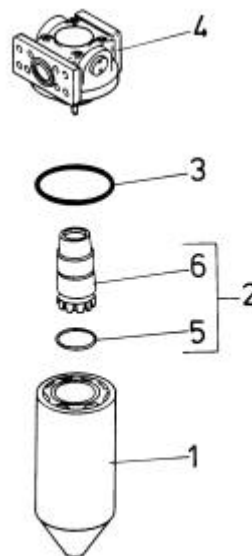

Fig. 5.37. Hydraulic Reservoir Return Filter
5.14.3. CHANGING THE HYDRAULIC OIL RETURN FILTER (Fig. 5.37)